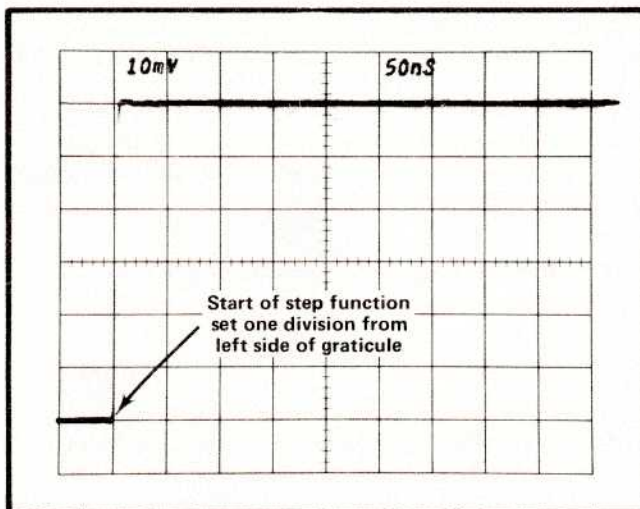

Fig. 5-13. Step function position for transient response adjustment, step 12.
(8) Set the top of the display to graticule center, using the 7A11 POSITION control. Then switch the 3S1 Channel A and Channel B mVolts/Div controls to 5 mV. Re-adjust the 7A11 POSITION control to keep the top of the display at graticule center.
(9) CHECK—Display should be similar to that observed in step 12-d (7). Deviation should be approximately within  $\pm 1$  division, which is equal to  $\pm 2\%$ .
(10) Repeat the transient response adjustments listed in Table 5-6, striving to duplicate the mean trace shape recorded in step 12-d (7).
(11) Remove the Extender (and attached 7A11) from the plug-in compartment.
(12) Install the 067-0587-00 Calibration Fixture (item 9) in the vertical plug-in compartment. Switch it to 250 kHz, + Step Response, and adjust the Amplitude to obtain a centered 6-division display. Switch the sweep rate to .05  $\mu$ s/division and set the step function to occur at the second line from the left of the graticule as in Fig. 5-13. Note the shape of the top-left corner of the pulse. It will be used as a reference.
(13) Install the 7A11 directly into the Oscilloscope vertical compartment.
(14) Adjust the Type 106 Square Wave Generator + Transition Amplitude to obtain a 6 division, 250 kHz display. Position the display as in Fig. 5-13. The step function should be essentially the same as that provided by the Calibration Fixture.